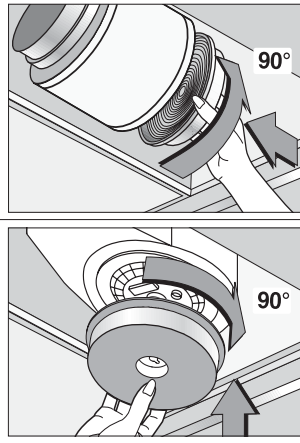

Fig.7
• Replacing halogen light bulbs (Fig.7):